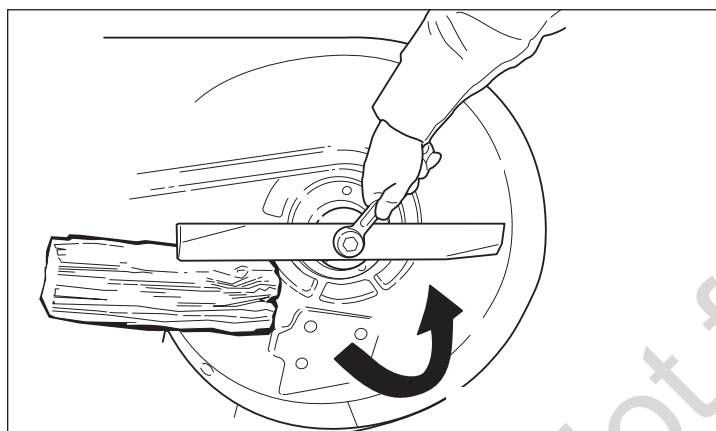

Figure 12. Loosening the Mower Blade for Removal
1. To remove the mower blade, use two (2) 15/16" wrenches to remove the nut from the top of the blade bolt (Figure 12).